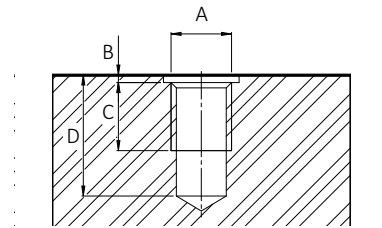

Figure 14: Front mounting threads
1. Mount the camera to the base using suitable M4 screws at 3.4 Nm maximum torque for a thread engagement (C) of 7 mm between screws and mounting threads, see Figure 14. For details, see your model's technical drawings.